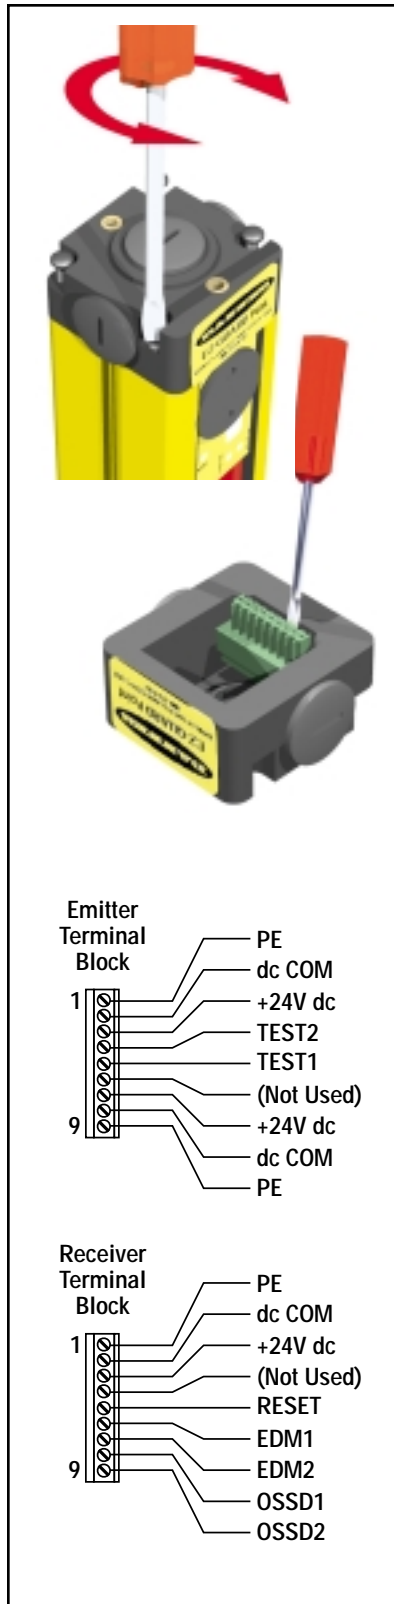

Figure 3-14. Making connections to the sensor terminal blocks
For easy wiring, each EZ-GUARD sensor has a removable modular terminal block inside one end cap, at the same end as the indicators (See Figure 3-14). To make connections:
- 4) Route the wires or cabling through the bracket (if necessary) and the wiring chamber end cap. Remove outer cable insulation as necessary (approximately 1" to 2") and strip the individual wire insulation approximately 7 mm (0.25"); make connections to terminals as indicated in Figure 3-14. Torque the terminal screws to 0.22 to 0.25 N m (1.9 to 2.2 in. lb.) recommended torque.